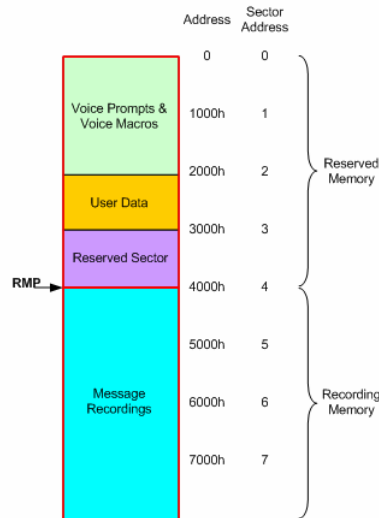

Figure 2-7 Example of ISD15100 Memory Map
- Empty messages (A):
- Re-recordable messages (B):
- Users can have a default message when reserving the memory sectors for a message recording. For a re-recordable message, the first sector will be allocated in 'Reserved Sectors' (refer to Figure 2-7); the rest of the message will be allocated in 'Recording Memory'.